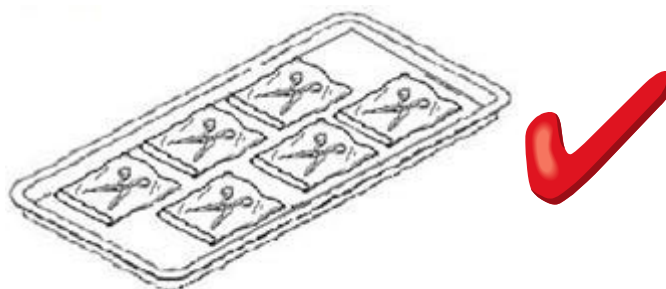
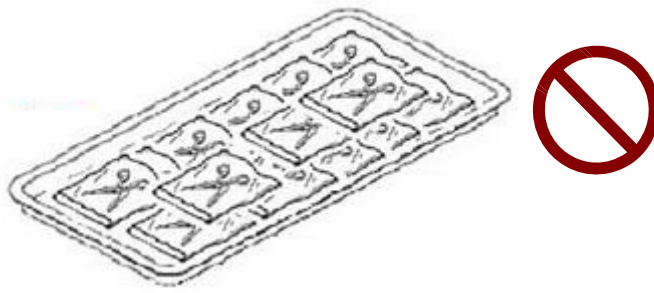

Figure 57
Figure 58
**Warning:** If implements are packed with sterilizing pouches, please make sure not to pile them up. Follow Figure 57 for correct placement and do not overlap pouches like to Figure 58 ensure the sterilization quality.